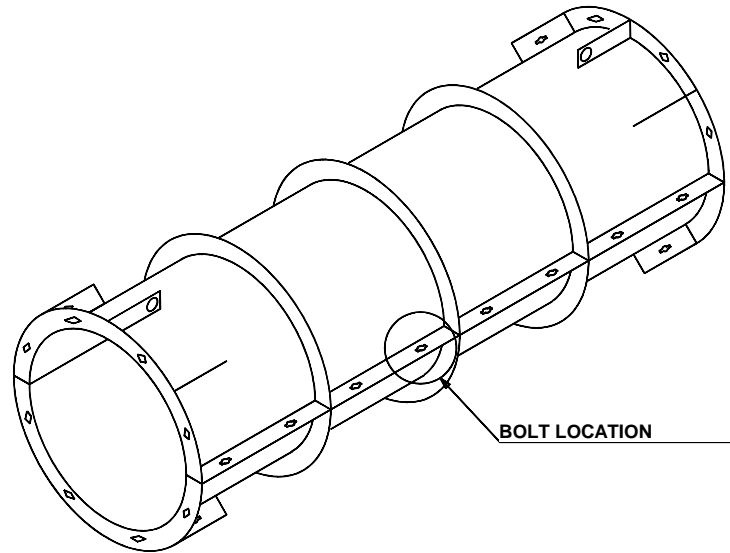

Figure 5
- ❖ Bolt the CLR panels together with the CMN BOLTS. Insert the bolt in the tie hole, rotate and strike the wedge with a hammer to tighten it. (See figures 5 and 6).